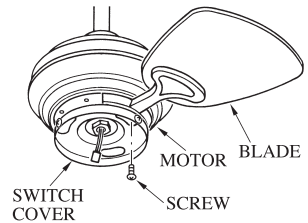

FIG.8
2. Attached each blade assembly to the fan body using the blade screws. Tighten them securely (see Fig.8)